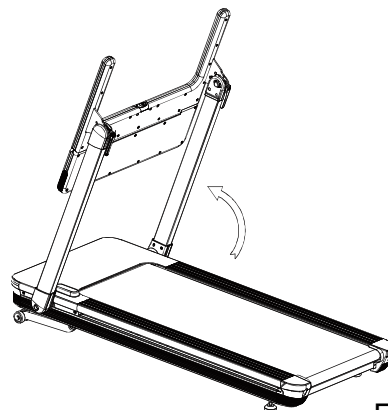
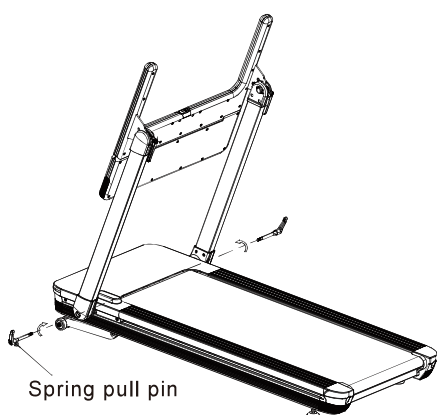

Figure 2
Figure 3
2. After removal, turn the column counterclockwise as shown in Figure 2. After turning to the correct position, install the spring locking pins on the left and right sides as shown in Figure 3.
Original illustrations for installation: Figures 3 and 4